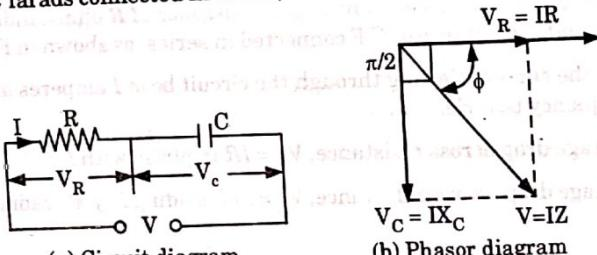

Fig. 2.14.1
- Consider an AC circuit consisting of resistance of R ohms and capacitance of C farads connected in series, as shown in Fig. 2.14.1(a).